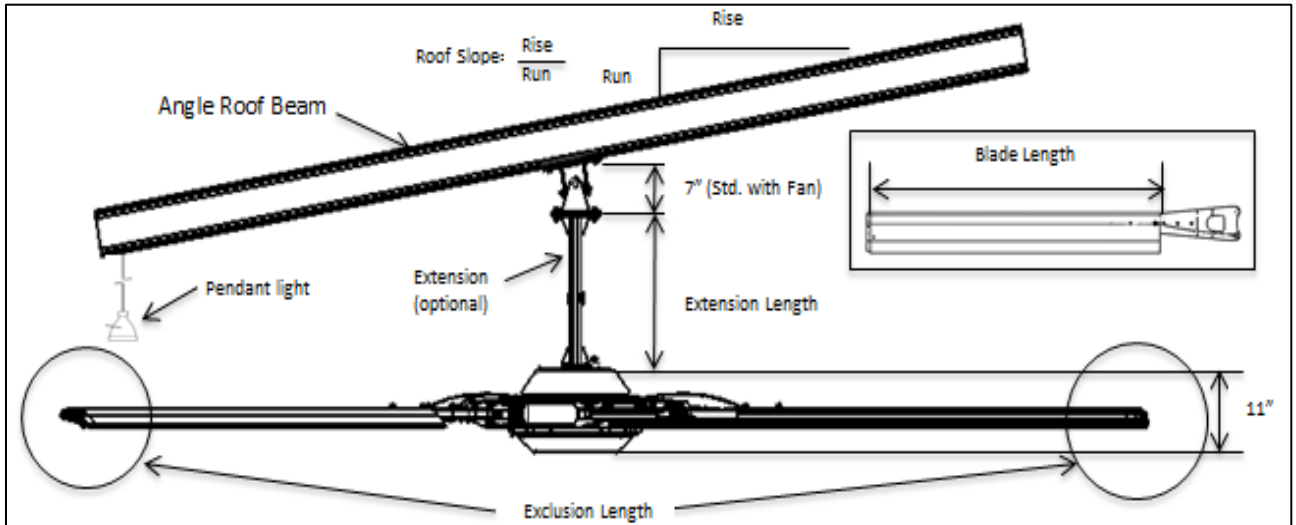

Figure 10: Motor clearance and exclusion zone
NOTICE *If building support beam is not at level, ensure proper fan clearance using the mounting information shown on Figure 10: Motor clearance and exclusion zone or add mounting extensions as required to ensure clearance.*
- Ensure fan blade does not extend into exclusion zone (Figure 10: Motor clearance and exclusion zone)